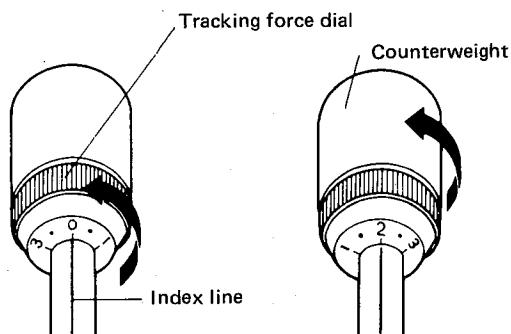

Figure 5
- (1) Turn the Counter Weight until the Pickup Arm is balanced freely in horizontal plane.
- (2) Slip the Tracking Force Dial only to opposite the "O" on the Dial to the Line on the Arm Shaft. (Figure 5)